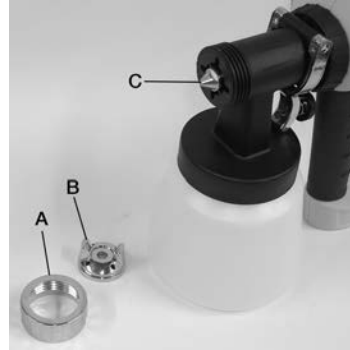

Figure 4
- 1) Loosen and remove the nozzle cap locking nut (A) Fig.4.
- 2) Remove the nozzle cap (B).
- 3) Using a wrench (not included), loosen the brass nozzle (C) and replace it with the desired brass nozzle.